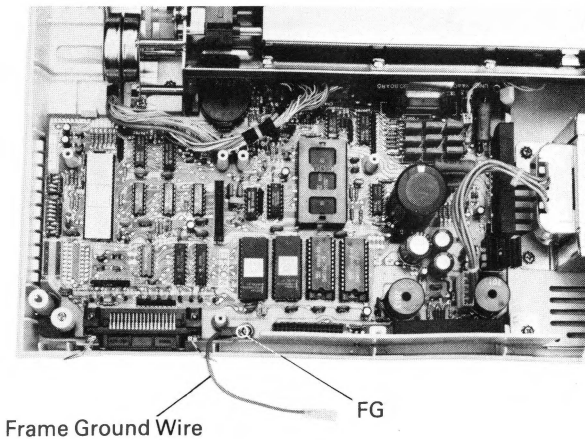

Fig. 6 Connecting Frame Ground Wire
(7) Connect one end of the frame ground wire (Round Chip) contained in the shipping package of this interface as an accessory to the frame ground terminal. (See Fig. 6.)